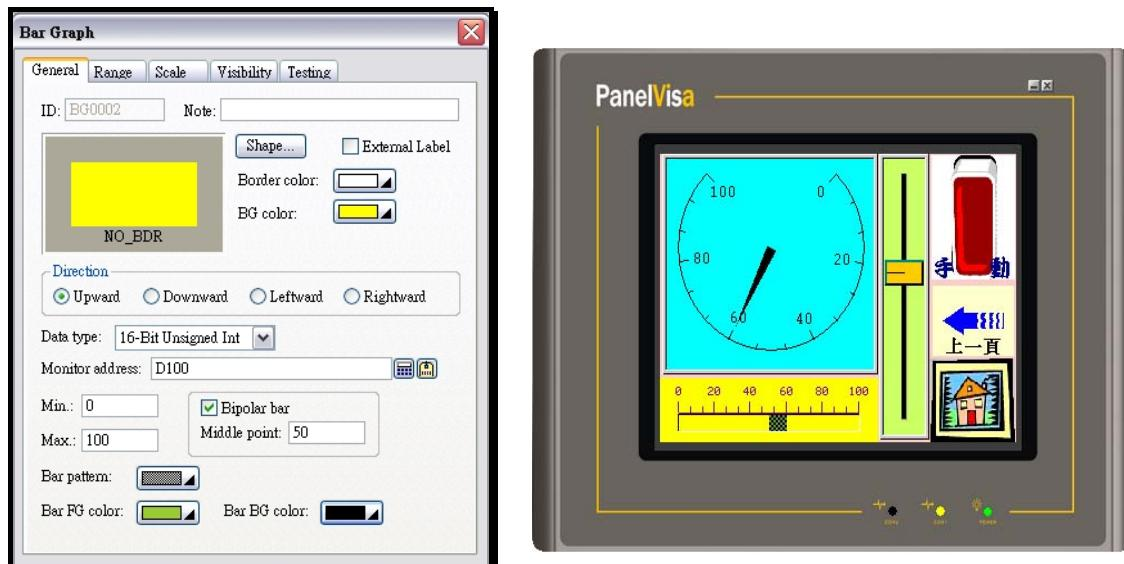

Figure 2-35 Object properties dialogue _bipolar graph
Bipolar bar graph : The HMI compares the value read from specified registers of PLC with Middle point and transforms the difference to bipolar graph on the screen. See the settings in figure 2-35. When the value of PLC is “d100=60“, displays PLC value (60)-Middle point(50)=10 . See figure 2-35. When the PLC value (d100=80), displays PLC(80)-Middle point(50)=30>High Limit(25), then changes to a specified color.